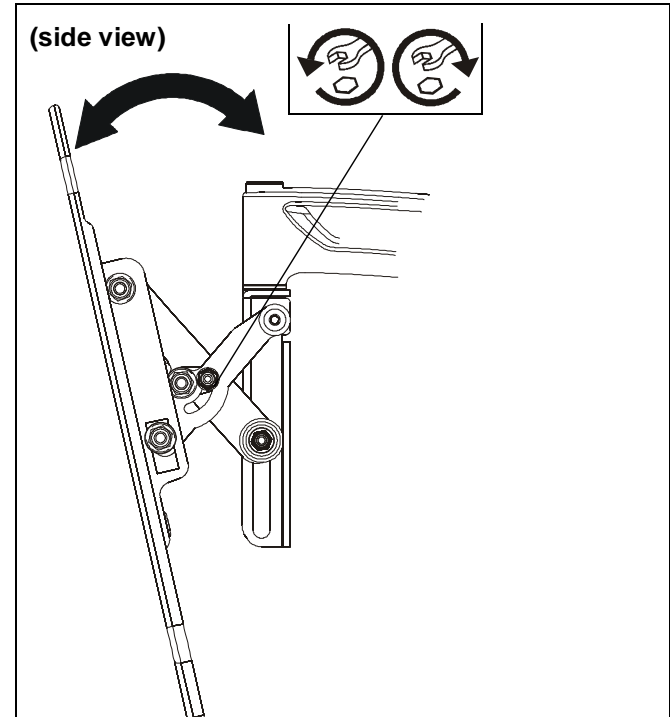

Figure 32
1. Tilt display forward enough to expose screws on the side of tilting mechanism. (See Figure 32)
2. Adjust tilt friction adjustment screw to increase or decrease tilt friction. (See Figure 32)